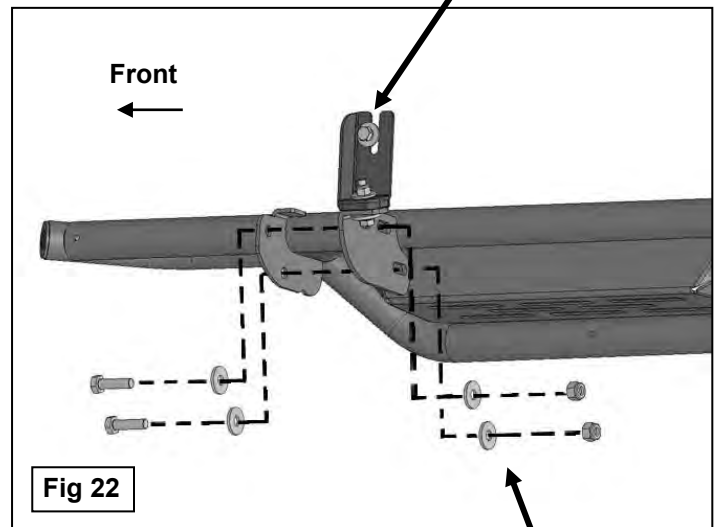

Fig 22
11. Repeat **Steps 5 & 6** to install the passenger side Running Board, (**Figure 22**).